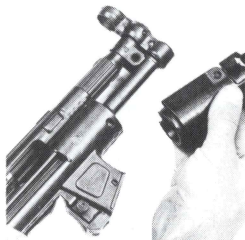

Figure 16B
9. Remove the forepiece from the pistol (Figure 16B) .